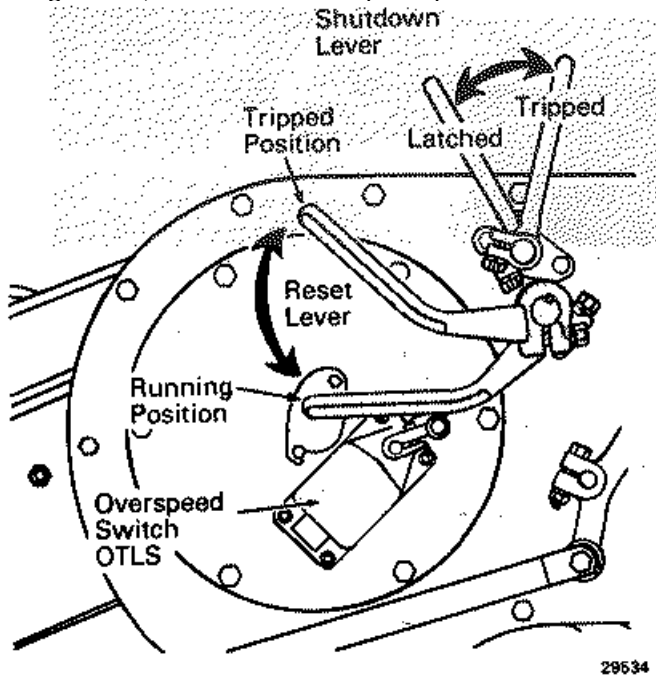

Fig. B-11 - Reset And shutdown Lever Positions
7. Ensure overspeed trip lever, Fig. B-11, is in running (latched) position.